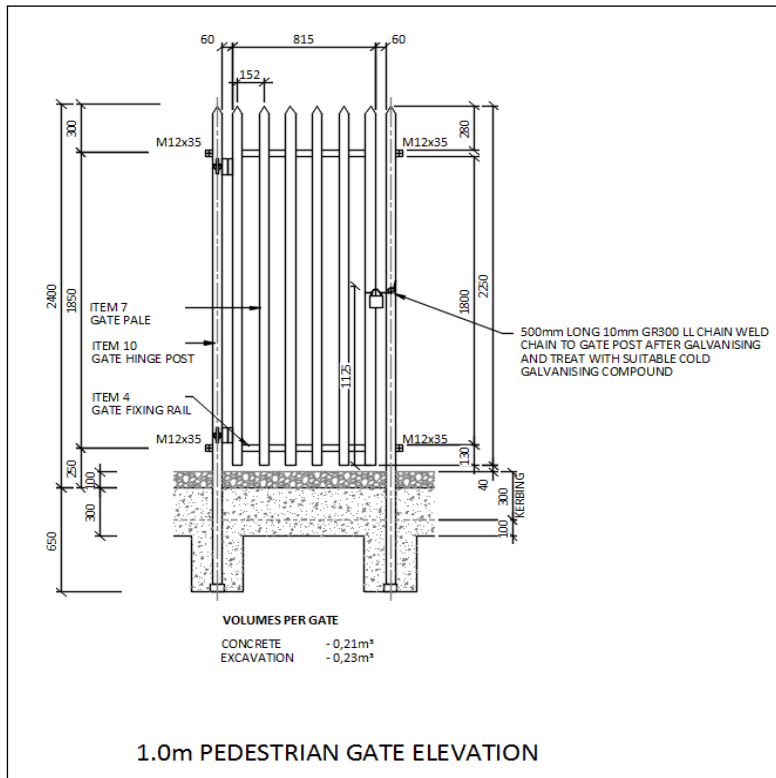

Figure 48: Typical 1.0 m Pedestrian Swing Gate Detail
- Figure 48: Typical 1.0m pedestrian swing gate detail.